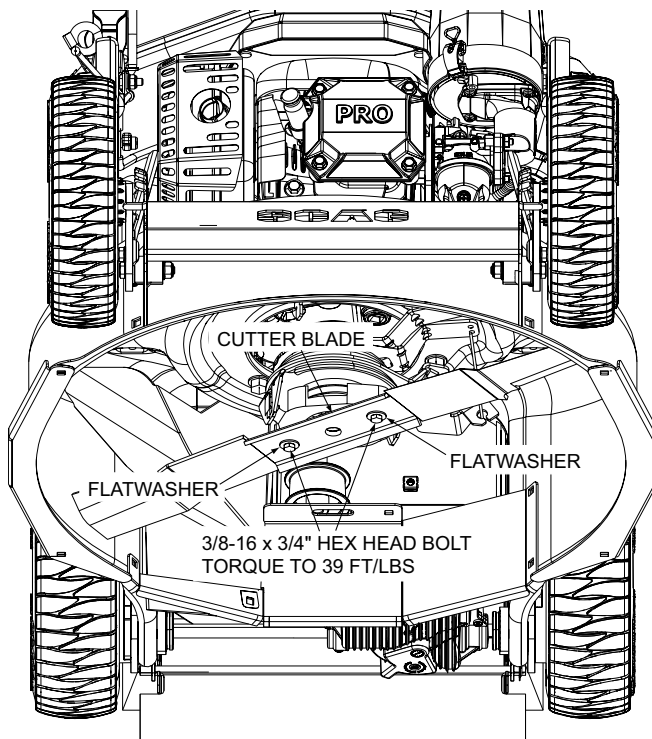

Figure 7-6. Blade Replacement
4. Secure the cutter blade to prevent it from rotating, remove the blade attaching bolts. Remove the cutter blade, bolts and flatwashers from the machine. See Figure 7-6.
- Install the cutter blade onto the machine. Secure the blades from rotating and torque to 39 ft/lbs. See Figure 7-6.